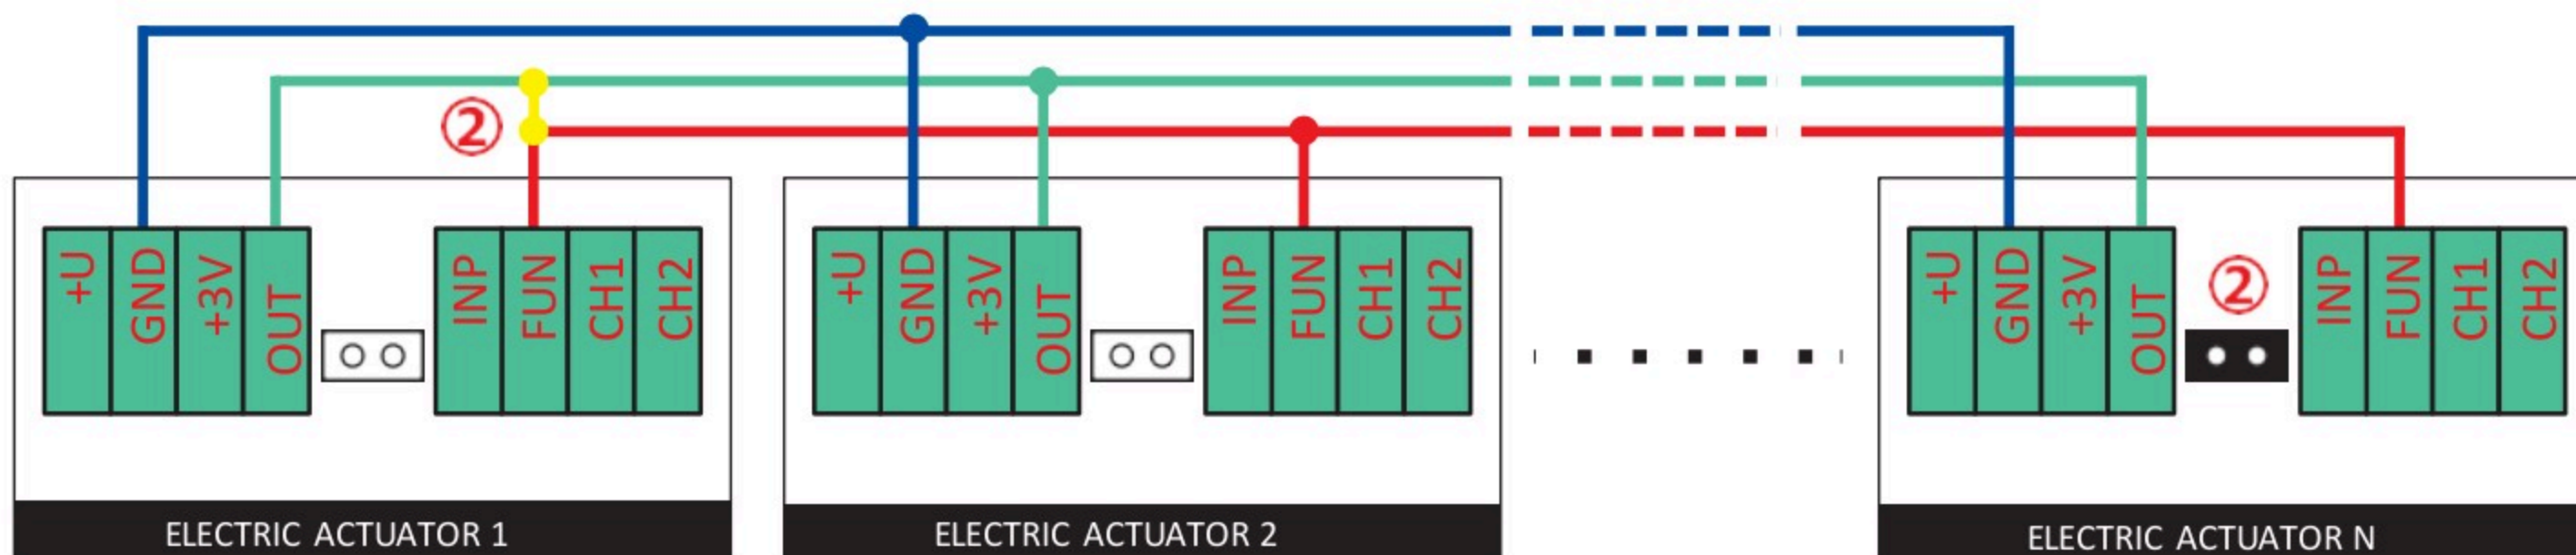

Fig. 2 Integration of several electric ball valve actuators from the GIDROLOCK WINNER RADIO and GIDROLOCK WINNER series
Several electric actuators can be connected to the master device (Fig. 2). Terminals for combining two or more electric actuators into a single system: **OUT, GND, FUN**.
ATTENTION! In one of the electric actuators, connect the **OUT and FUN terminals** together or install a **jumper (2)** (Fig. 2, Photo 6).